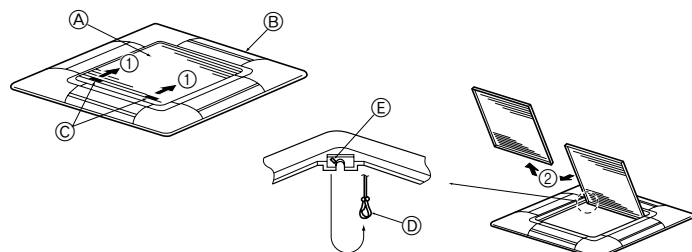
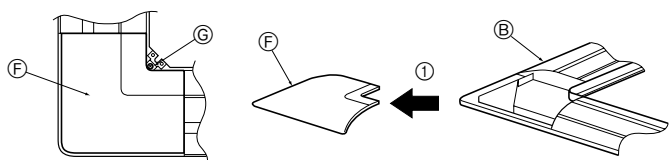

Fig. 8-3
Fig. 8-4
8.2.1. Removing the intake grille (Fig. 8-3)
- Slide the levers in the direction indicated by the arrow ① to open the intake grille.
- With the intake grille in the "open" position, remove the hinge of the intake grille from the grille as indicated by the arrow ②.
8.2.2. Removing the corner panel (Fig. 8-4)
- Remove the screw from the corner of the corner panel. Slide the corner panel as indicated by the arrow ① to remove the corner panel.
- (A) Intake grille